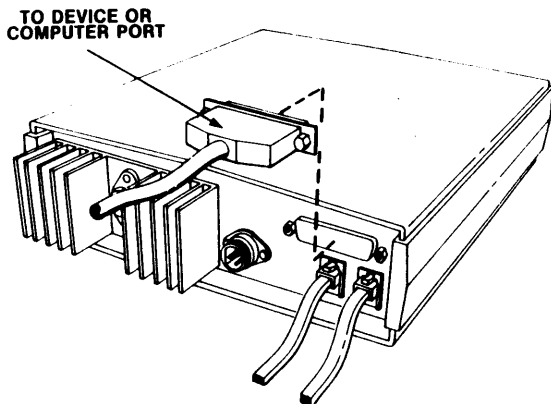

Figure 1-5 RS-232-C Connection
4. Connect the RS-232-C cable to the DTE connector on the rear panel (see Figure 1-5).